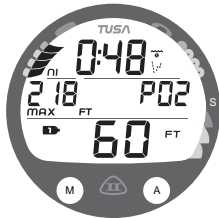

Fig. 41A - PLAN
- Plan Depth/Time**, information includes (Fig. 41A/B: